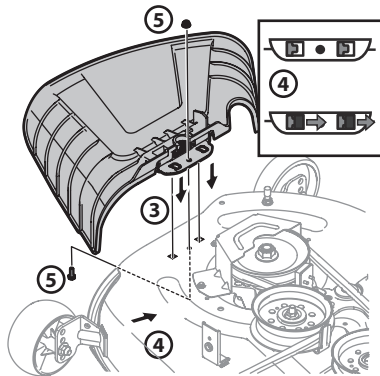

Figure 11
3. Place the chute deflector on the deck, be sure to insert the tabs on the chute deflector into the holes on the deck. See Figure 11.
4. Slide the chute deflector toward the rear of the tractor until the bolt hole in the chute deflector aligns with the hole in the deck. See Figure 11.
5. Secure the chute deflector in place with the flange lock nut and hex screw removed in step two. Tighten to 102-124 in.-lbs (11.5-14 N-m). See Figure 11. Skip ahead to "Setting the Deck Wheels"